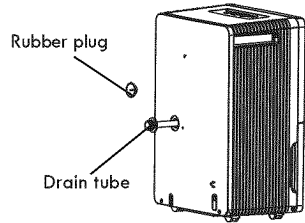
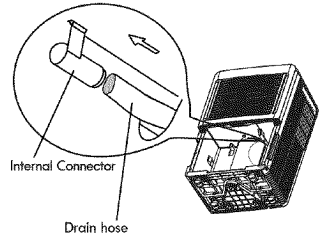

Figure 10
Figure 11
- Remove the rubber plug from the back drain outlet of the unit and set aside and remove bucket, then insert the drain tube through the drain outlet of the unit and securely press it into the connector on the front of the unit (See Fig.10 and Fig.11).